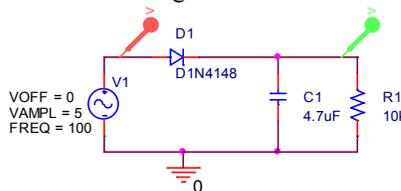

Figure B-6.
- Add a capacitor across the resistor as shown in Figure B-6 below: